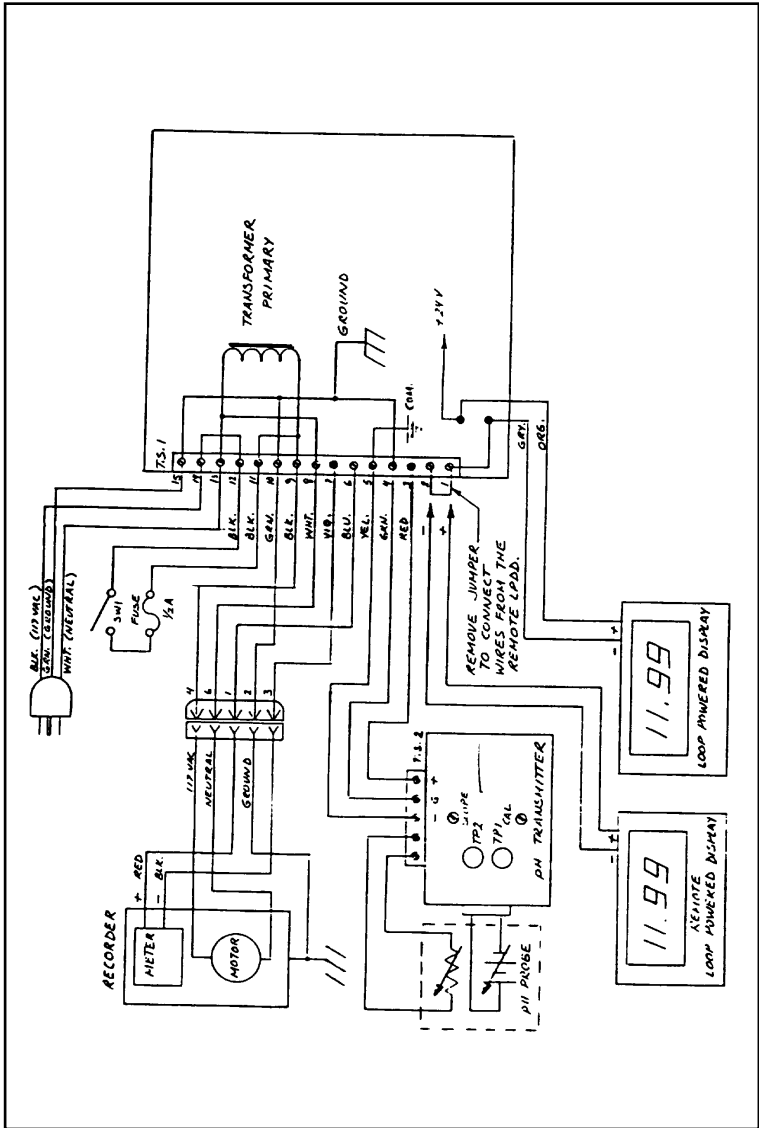

Figure 2-1. Wiring Diagram (PHCH-370)
2.3.1 Wiring for PHCN-370 (Refer to Figure 2-1)